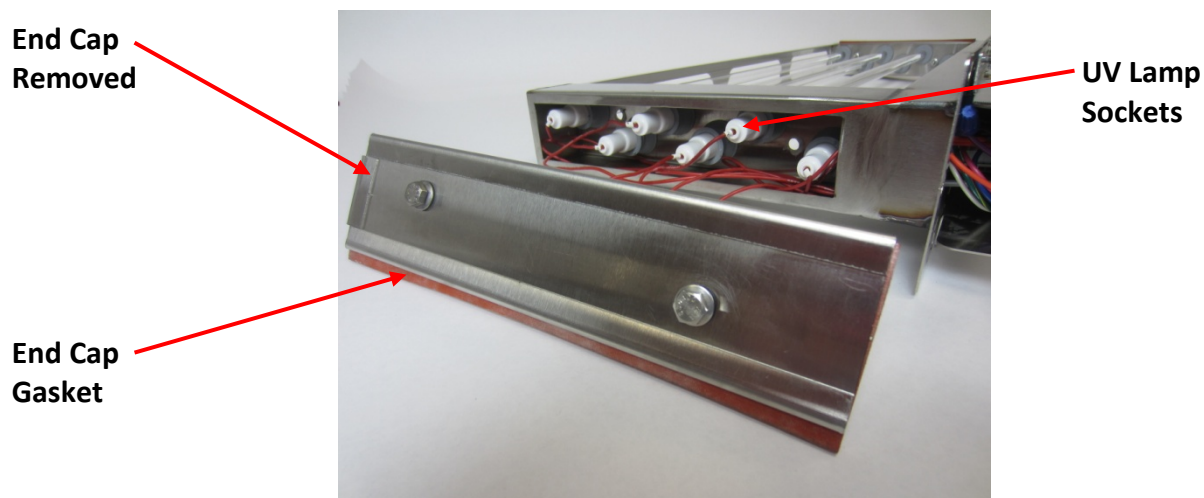
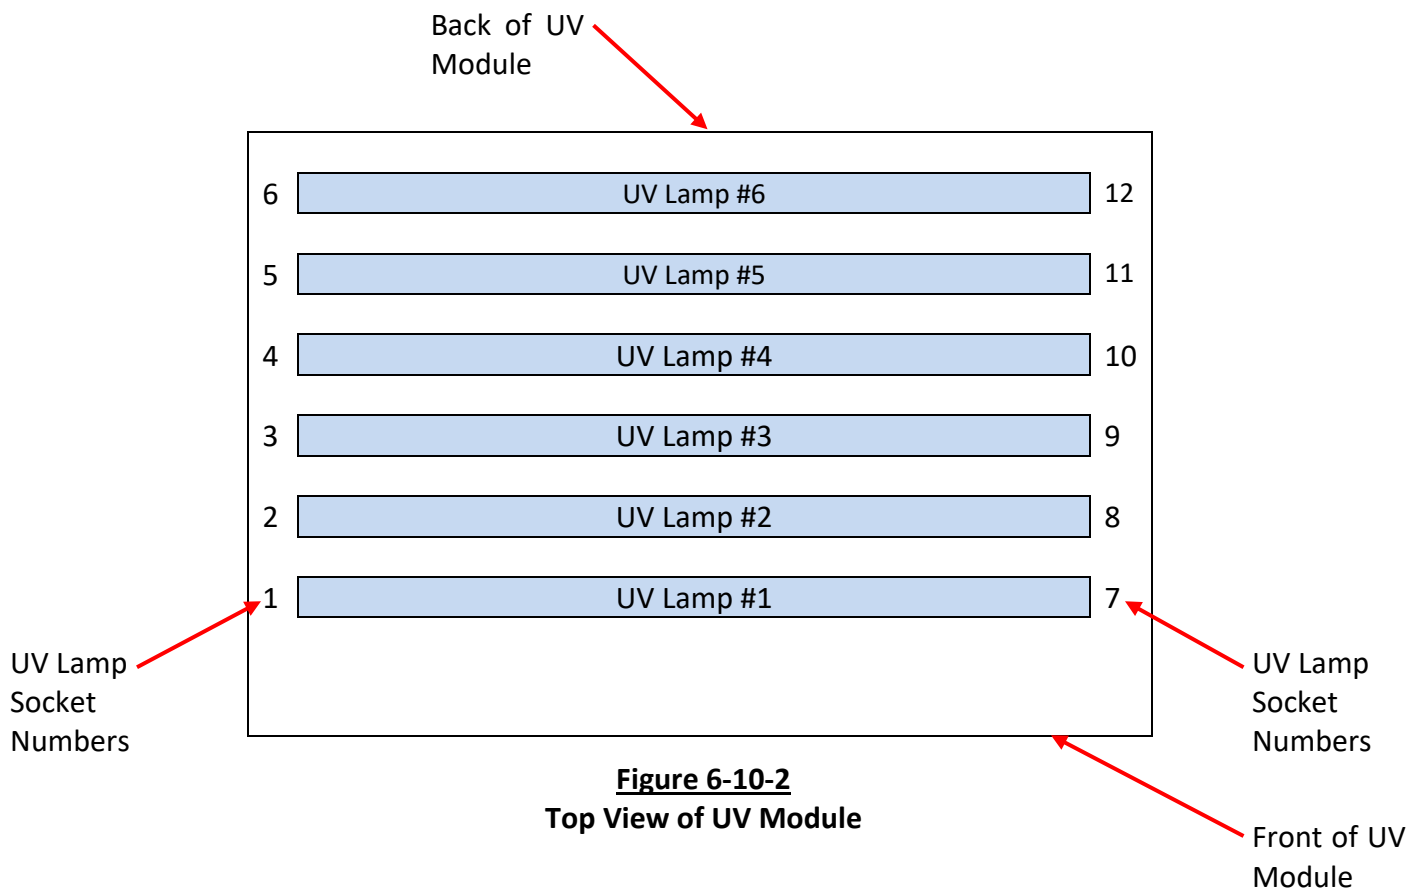

Figure 6-10-1
Figure 6-10-2
8. The sockets, with wires, that slide onto the ends of the UV Lamps are called UV Lamp Sockets (Refer to Figure 6-10-1). The wires are marked from the Factory with numbers 1 through 6 on the left end and 7 through 12 on the right end (Refer to Figure 6-10-2).
16. Reconnect all the UV Lamp Sockets to the appropriate numbered Lamp as shown in Figure 6-10-2.
17. Check the Module End Cap Gaskets for cracks or deterioration (Refer to Figure 6-10-1). Replace if needed.
8. The sockets, with wires, that slide onto the ends of the UV Lamps are called UV Lamp Sockets (Refer to Figure 6-10-1). The wires are marked from the Factory with a number 1 through 6 for the left end and 7 through 12 for the right end (Refer to Figure 6-10-2 and 6-11-1).